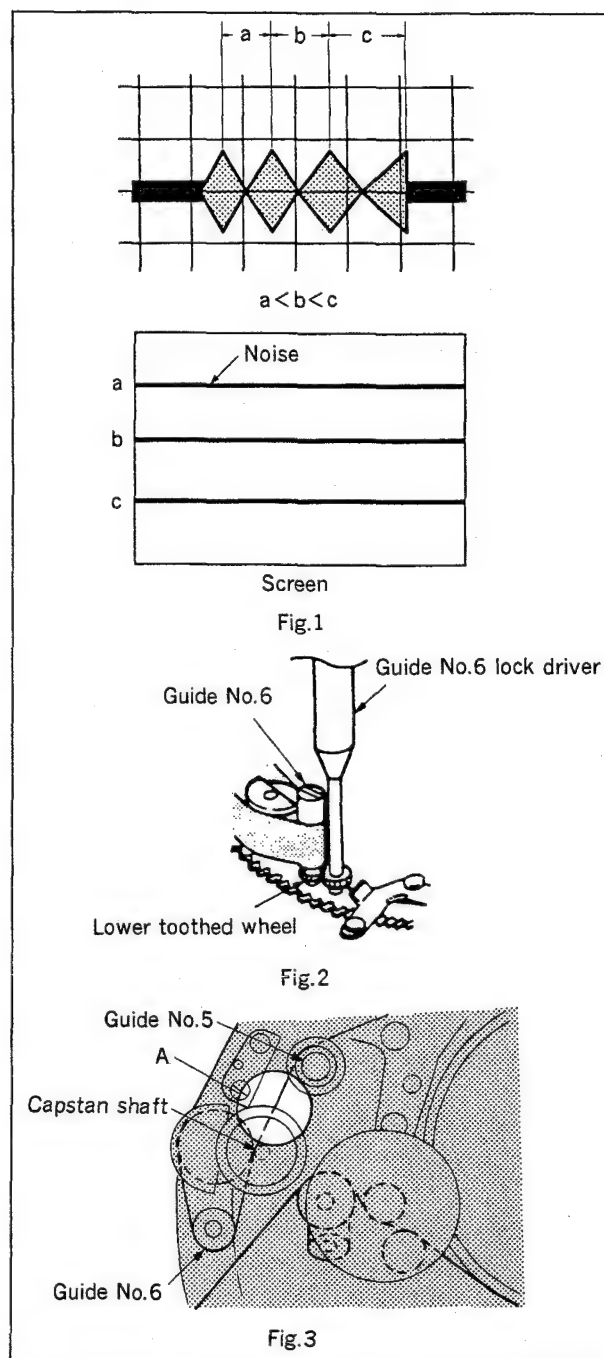

Fig. 6-4-4 Exit side noise pitch adjustment
See Fig. 6-4-4 (1).
5-6. Rotate the lower toothed wheel using Guide No.6 lock driver, in counterclockwise direction to loosen it. (See Fig.6-4-4 (2).)
Note:If Guide No.6 is raised too high, tape wrinkle will result at portion-A between capstan and Guide No.5. So check for tape without wrinkle. (See Fig.6-4-4 (3).)